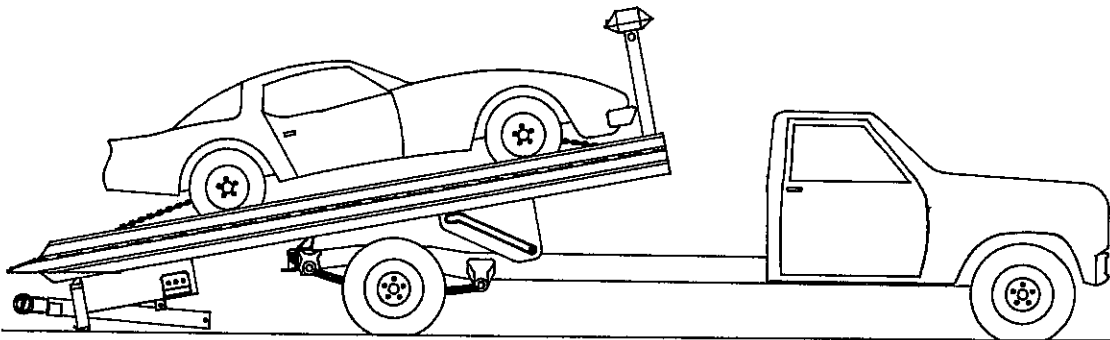

Figure 6-1.9
- 6-1.9 Slide the bed to the full forward position. (See fig. 6-1.9)